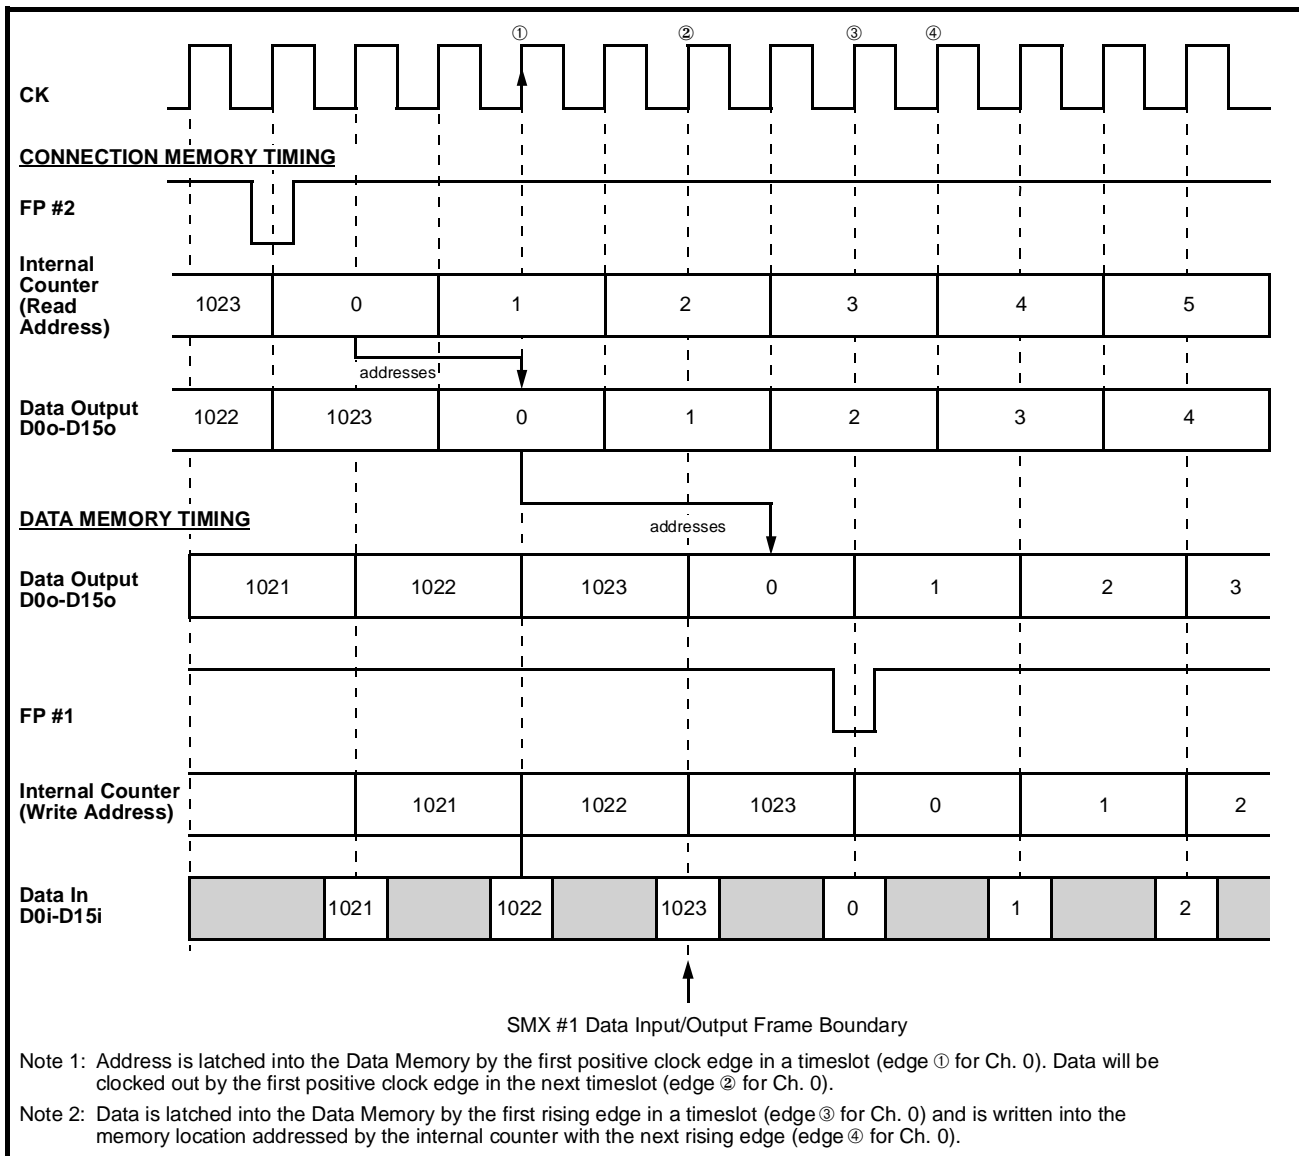

Figure 16 - 1024 Channel Switch Timing
The clock applied at the CK input of both the devices has a frequency of 16.384 MHz. There are two clock periods in each channel timeslot (see Figure 16). A framing signal (FP) with a frequency of 8 kHz is used to delineate frames with 1024 channels each. The FP input to the Data Memory is delayed by seven clock periods from the Connection Memory frame pulse. This phase delay synchronizes the internal counters of the two SMXs such that the Connection Memory clocks out addresses one channel ahead of the affected timeslot.